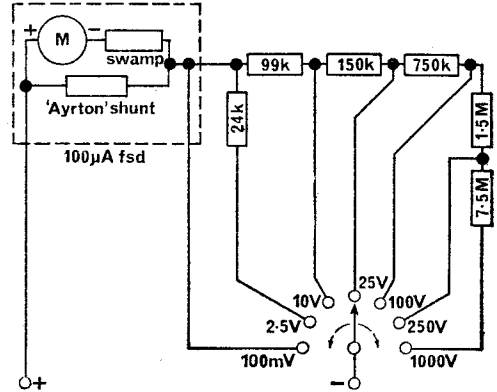

Fig. 5. Simplified volts circuit CT511
10. **Multimeters.** A voltmeter should theoretically have an infinite internal resistance so that it would absorb no energy from the circuit under test and would therefore measure the true circuit voltage. In practical meters some loading effect is unavoidable, but it is minimised as much as possible by using highly sensitive meter movements in conjunction with very high value series resistors (see Fig 5). An even better method is to use a thermionic valve as the input stage to a more robust meter to form a 'valve voltmeter'.
11. **Sensitivity.** The basic sensitivity of a meter movement is given in terms of the current needed to cause full scale deflection of the pointer. To make the expression of sensitivity more informative, for use as a voltmeter it is given as the number of ohms present in the meter circuit for each volt of the meter range (ohms per volt). This is found by dividing the current needed for f.s.d. into 1 volt. Knowing the sensitivity in ohms per volt, the shunting effect of the multimeter can be found simply by multiplying the sensitivity by the range setting on the meter. For example the shunting effect of the meter shown in figure 5 (CT 511) on the 25V range is $25V \times 10,000$ ohms/v or 250,000 ohms.